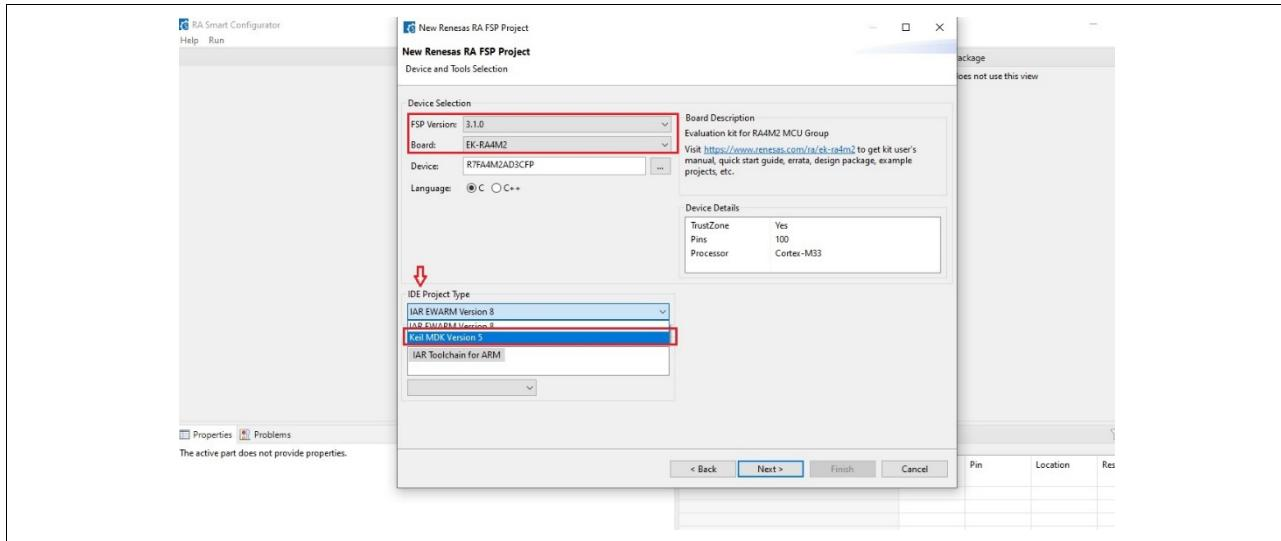

Figure 33. Select Project Type
3. The next step is to select the required FSP version and board. The project type of the particular IDE can be selected in this step as shown in Figure 33. Select Keil MDK version 5.